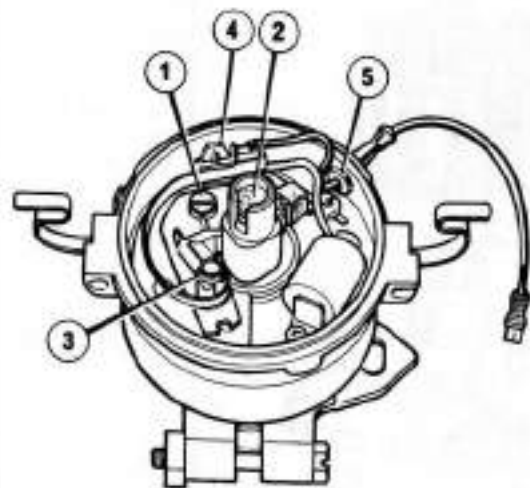

Figure 4b Contact breaker adjustment
3 Slacken the slotted headed screw (Figure 4b) in the contact plate and adjust until the gap is 0.38mm (0.015in). The gap is measured with a suitable feeler gauge and pressure should be applied to the points, with the feeler gauge inserted between them, whilst the screw is being tightened.
- 4 The condenser, condenser lead, low tension terminal and low tension fly-lead, is a complete assembly. The fly-lead complete with grommet and insulated Lucas terminal should be withdrawn through the hole in the distributor body. (See **Figure 4b**.)